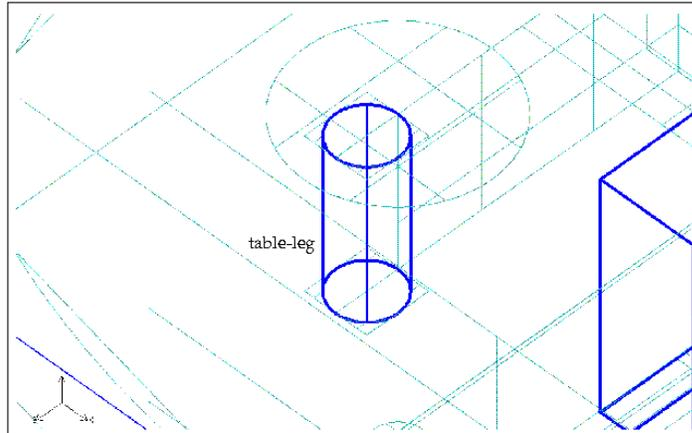

Figure 4.5: Close-Up View of the Table Leg Block Object
- (a) Use the right mouse button to zoom into the CAD geometry representing the table leg and the middle button to translate the view, as shown in Figure 4.5.
- ii. Using the left mouse button, click on the top, the bottom, and the side of the table leg (shown in Figure 4.5) in the graphics window.